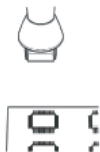

Fig. 6
2. Preheat the components as per Fig. 6